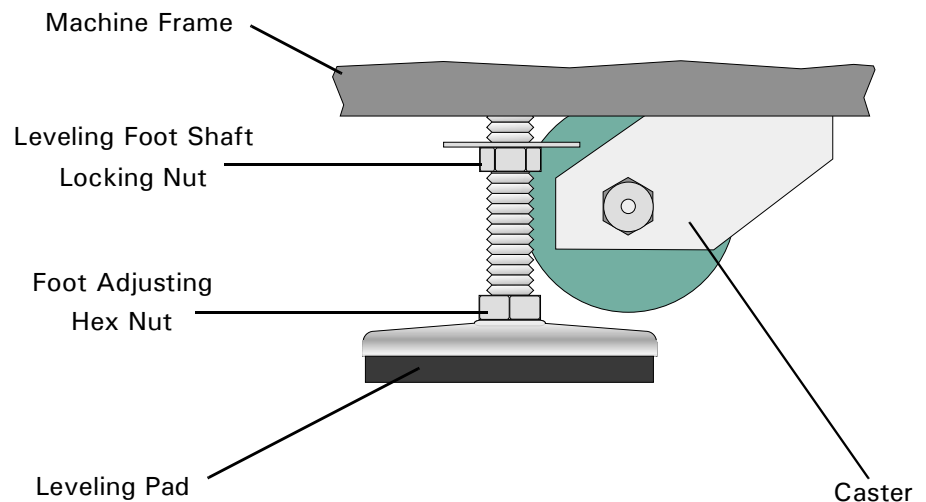

Figure 3-5
2. Loosen the locking nuts on the shafts of the leveling pads. See Figure 3-5 and refer to section titled - **Leveling And Height Adjustment**.
3. Loosen the locking nuts on the shafts of the leveling pads. See Figure 3-5 and refer to section titled - **Leveling And Height Adjustment**.
1. Using the hex drive on top of the leveling pad shaft, adjust each corner until the system is at the correct height and level. See Figure 3-5.